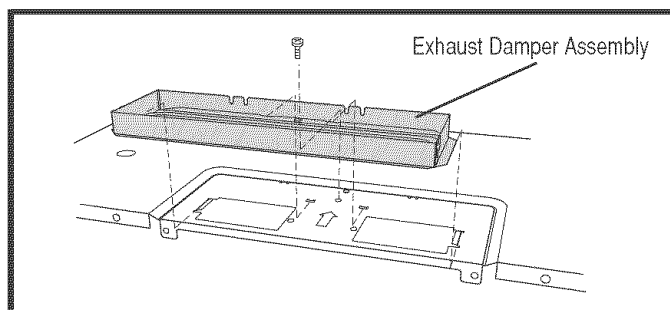

Figure 15
6. Attach the Exhaust Damper Assembly ⑨ to the fan cover on the top of the outcase cabinet by sliding it into the slits in the same direction as the arrow. Use 1 Tapping Screw 4 X12 mm ⑤ from the INSTALLATION HARDWARE and tighten into place. See Figure 15.